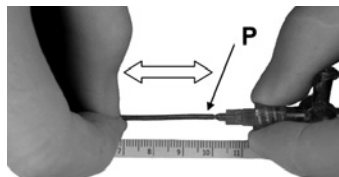

Fig. 22: Position 1A
- In case that the device cannot be released by pulling the torquer (T), it is suggested to elongate the pusher 2 cm near the “Y” connector. This will loosen the retaining wires and the device (D) will be released. Fig. 22 - 25.